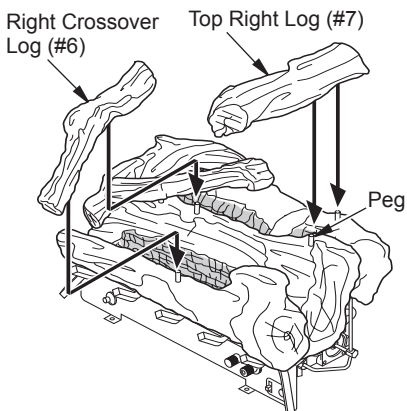

Figure 25 - Installing Right Crossover Log (#6) and Top Right Log (#7) (30" Remote Ready Set Shown)
5. Place the right crossover log (#6) on the center log and the front log as shown in Figure 25. Make sure the peg on the center log is in the hole in the bottom of the crossover log.
6. Place the top right log (#7) on the center log and the back log as shown in Figure 25. Make sure the peg on the center log is in the hole in the bottom of the top log.